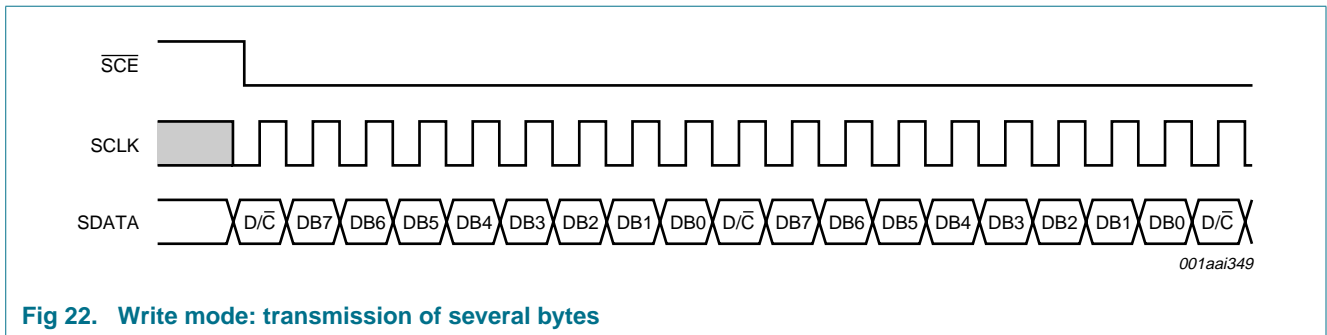

Fig 22. Write mode: transmission of several bytes
- If \overline{SCE} stays LOW after the last bit of a data/command byte, the serial interface receives the D/\overline{C} bit of the next byte on the next rising edge of SCLK; see Figure 22